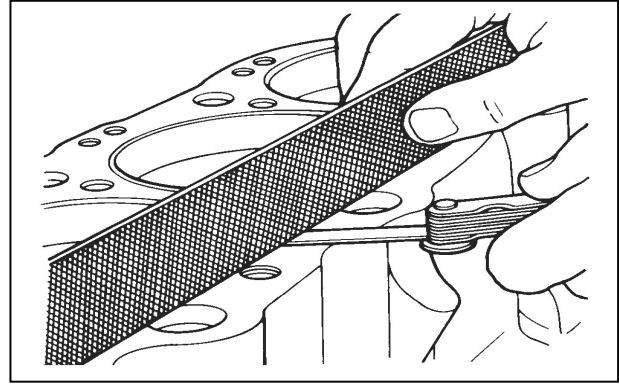

Figure 12-25 Measuring Cylinder Block Surface Flatness
- Cylinder head mounting surface for flatness, using a precision straightedge and feeler gage (figure 12-25).